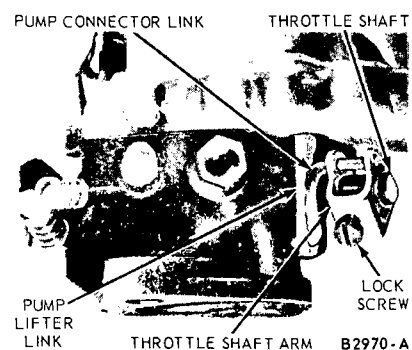

FIG. 13—Throttle Shaft Arm Installation
8. Install the throttle shaft arm and pump connector link on the throttle shaft and pump lifter link (Fig. 13). Tighten the lock screw.